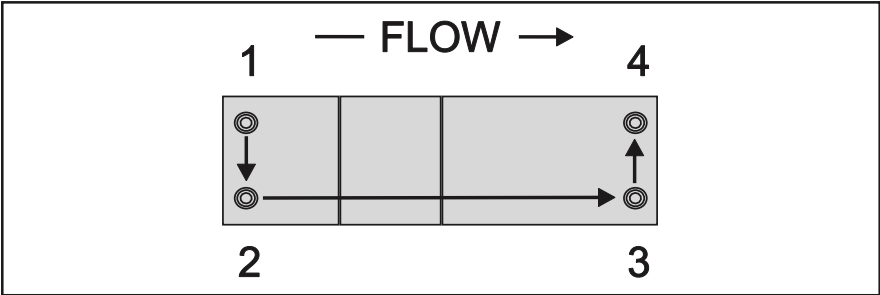

Figure 2-6 Mounting Screws Torque Pattern*
- Using a torque wrench and a metric hex key, tighten the screws to the torque value as described in Table 2-2 and Torque Pattern Figure 2-6.